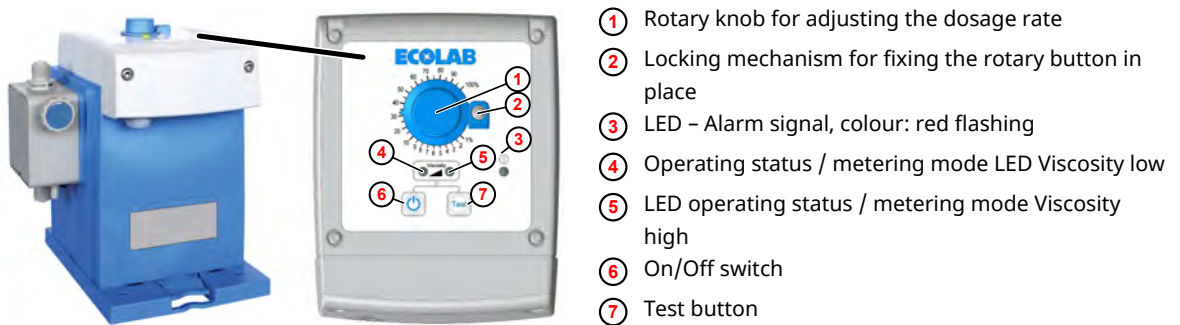

Fig. 15: Control panel EcoPro
1. ➤ Use the On/Off button  (Fig. 15 , ⑥) to switch the pump on and off.
*Depending on the selected metering mode, either the left LED (Fig. 15 , ④ , Viscosity low) or the right LED (Fig. 15 , ⑤ , Viscosity high) lights or flashes.